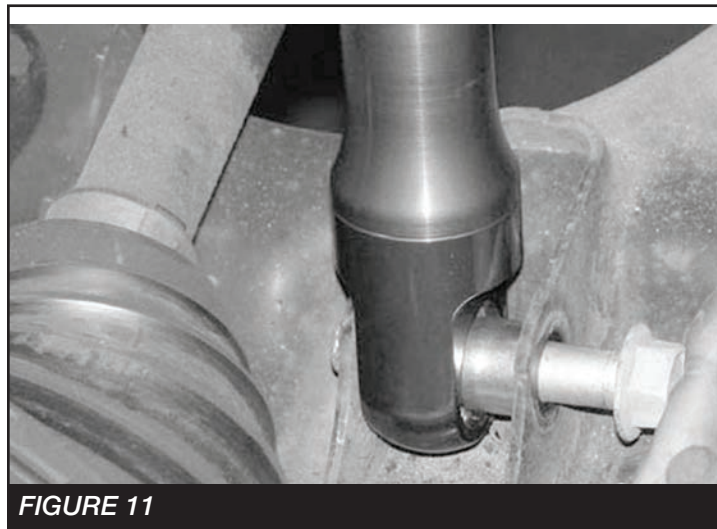

FIGURE 11
8. Install the rod end at the bottom of the shock into the lower control arm with the larger misalignment to the front of the Vehicle. Reinstall the factory bolt into the lower mount. Torque 100 FT-LBS. **SEE FIGURE 11**